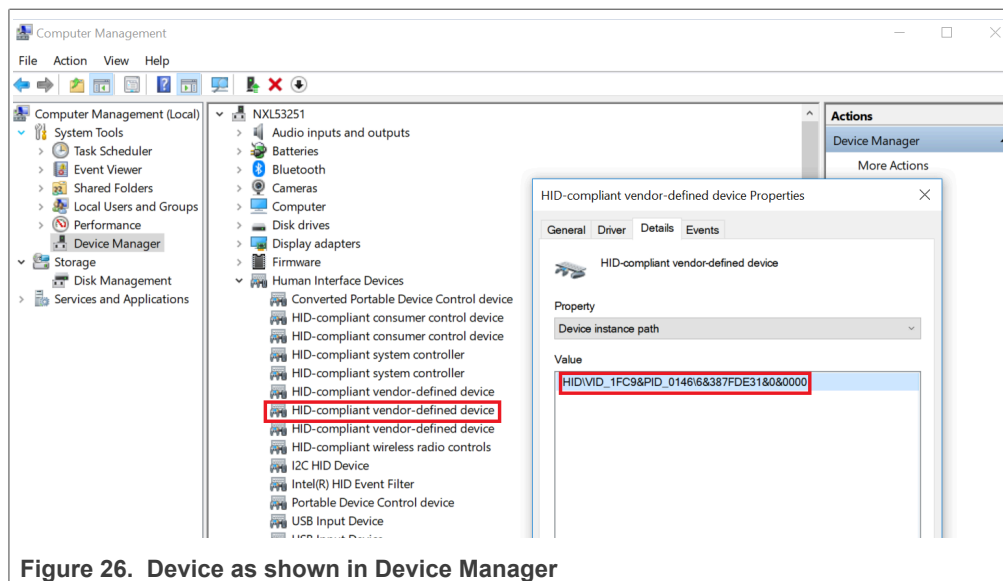

Figure 26. Device as shown in Device Manager
3. The PC recognizes the i.MX 8M Plus device as (VID:PID)=(1FC9:0146), as shown in Figure 26.